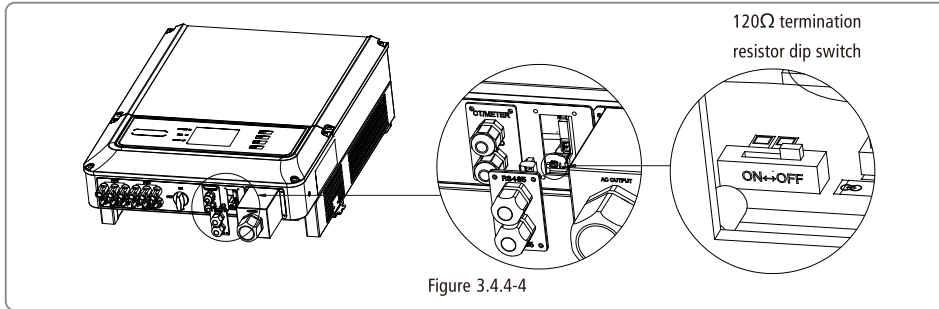

Figure 3.4.4-4
(3) The choice of 120Ω termination resistor dip switch (DT series only).
- 120Ω termination resistor is controlled by dip switch. "ON" means connected, and "OFF" means disconnected, illustrated as Figure 3.4.4-4.